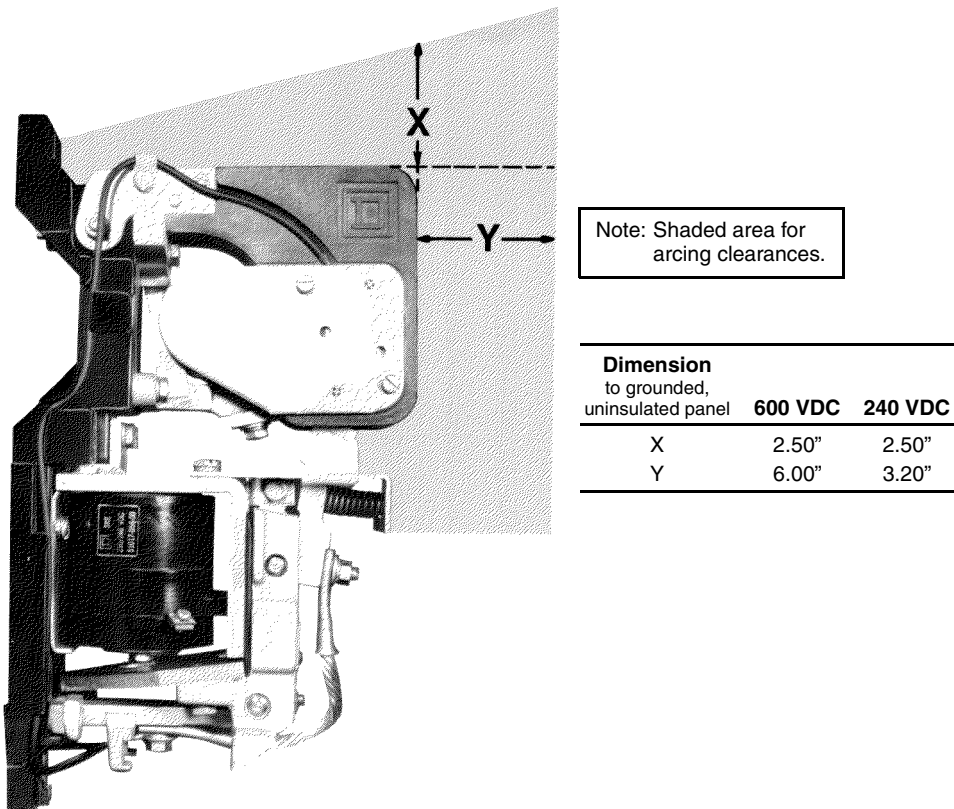

Figure 1 Electrical Clearances
4. Mount the contactor vertically on a rigid support and fasten down tightly using a plain washer against the contactor base. Provide the clearances shown in Figure 1 above the top of the contactor and in front of the arc chute.
6. Pivot the arc chute upwards. The contact tips (item 10) should meet squarely. If they do not meet, align them by the procedure in "Contact Tip Alignment" on page 4.